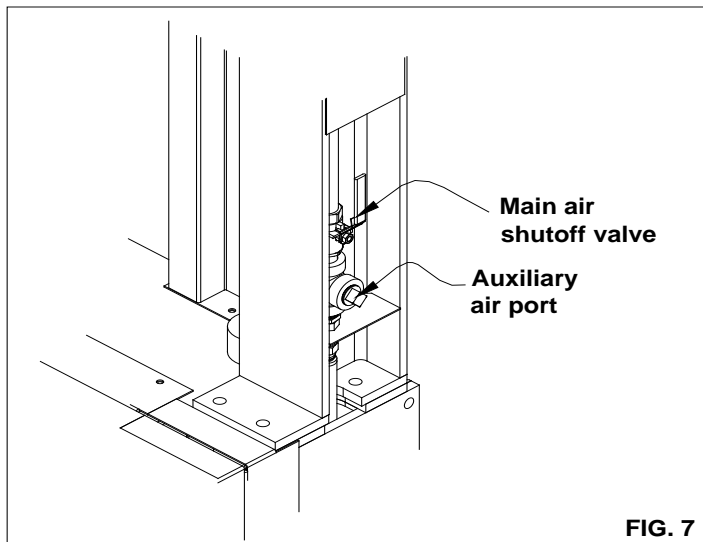

FIG. 7
3. With the air supply connected, slowly open the main air supply shutoff valve (see figure 7). Once the air supply is turned on, confirm the air pressure air regulator is set at 100 PSI. The lift is then ready to operate. Make sure the lubricator has been filled.
All pneumatic components in the Titan Lift are lubricated by an oil mist lubricator that is installed in the lower base of the unit (see fig. 9) next to the filter/regulator. The oil level should be checked daily and refilled when necessary. The oil mist is important for two reasons: 1. Lubrication and 2. Prevention of surface rust on internal components such as valves and air motors. Whenever adding oil to the lubricator the air supply must be shut off and drained by turning off the safety lockout valve (see fig. 7) in the unit base. Only good quality air tool oil should be used in the lubricator. If air tool oil is not available, use high quality petroleum based oil with a viscosity of 150-200 SSU at 100 deg. F. (Equivalent to SAE #10). Because some oils have additives which damage pneumatic components never substitute another type of oil. The oil delivery setting on the lubricator of 10-15 drops per minute is present at the factory and should not need readjustment. The rate can be checked by counting the number of drops of oil per minute in the feed sight dome.